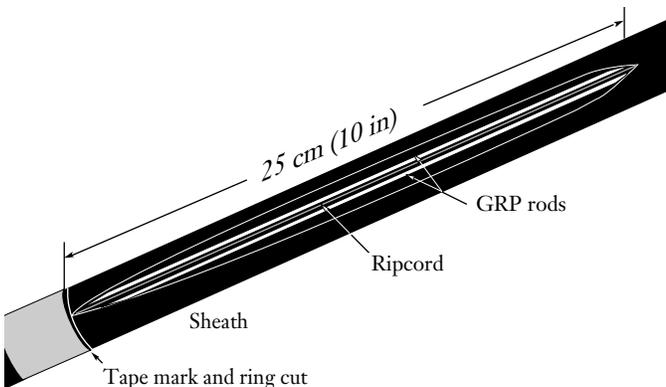

Figure 17
- Shave 25 cm (10 in.) of the outer sheath directly over the GRP rods (Figure 17).